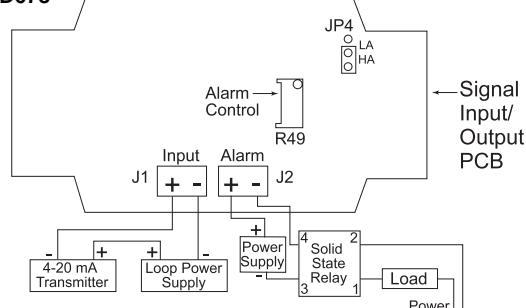
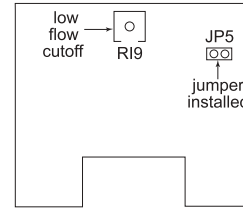

Figure 2. Signal Input and Alarm Output Connections; Low-Flow Cutoff and Alarm Controls
Figure 3. Low-Flow Cutoff Control (R19) and Jumper (Square Root Option PCB)
- Adjust the alarm control (R49) for desired alarm set point. For PD673 and PD674, R49 is located at the back of the instrument—refer to Figure 2. For PD675-PD678, R49 is located on the Signal Input/Output PCB—refer to Figure 3.